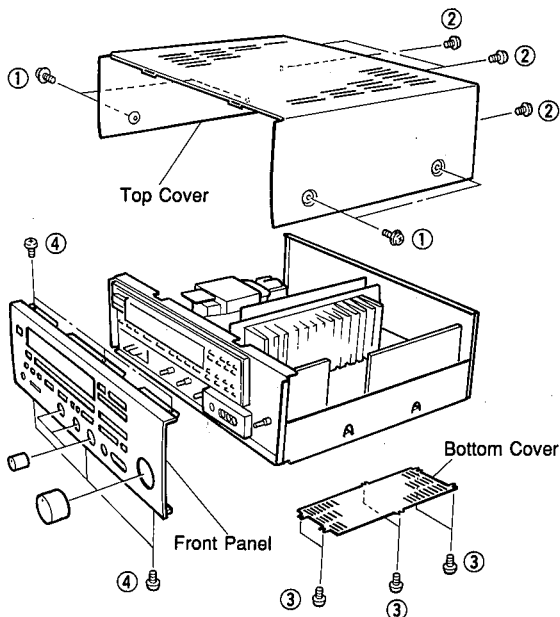

Fig. 1
- ③ P. C. B. DSP (3)
- ④ P. C. B. DSP (1)
- ⑤ P. C. B. TUNER
- ⑥ P. C. B. MAIN (3)
- ⑦ P. C. B. MAIN (2)
- ⑧ P. C. B. MAIN (1)
- ⑨ P. C. B. MAIN (4)
- ⑩ P. C. B. DSP (2)
- a. Remove 4 screws (①) and 4 screws (②) in Fig. 1.
- a. Remove 6 screws (③) in Fig. 1.
b. Remove 6 screws (④) in Fig. 1.